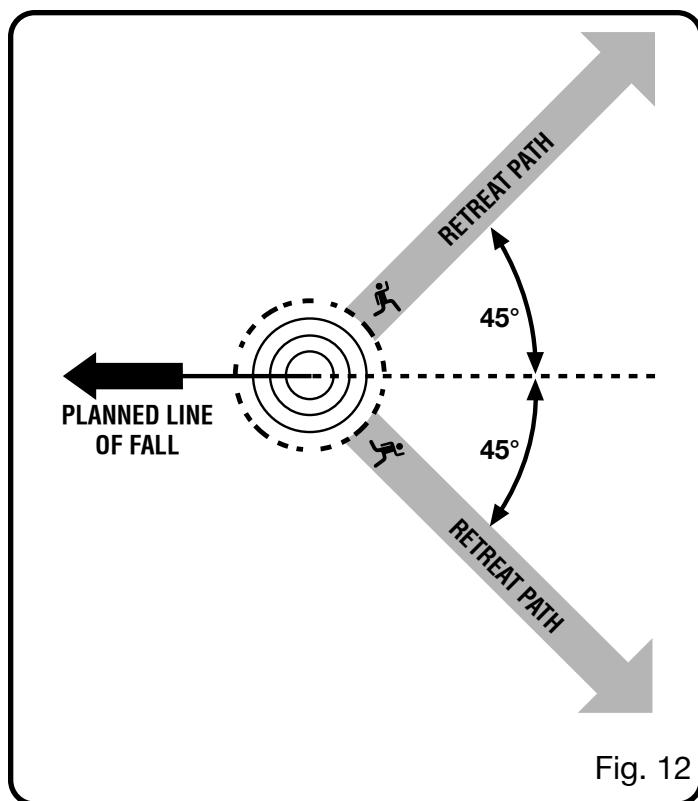

Fig. 12
See Figures 12 - 15.
- Before any cuts are started, pick your escape route (or routes in case the intended route is blocked); clear the immediate area around the tree and make sure there are no obstructions in your planned path of retreat. Clear paths of safe retreat should extend back and diagonally ( $45^\circ$ ) to the rear of the planned line of fall. When the tree begins to fall, you should retreat away from the direction of fall along a retreat path and at least 20 feet away from the trunk in case it kicks back over the stump. *See Figure 12.*